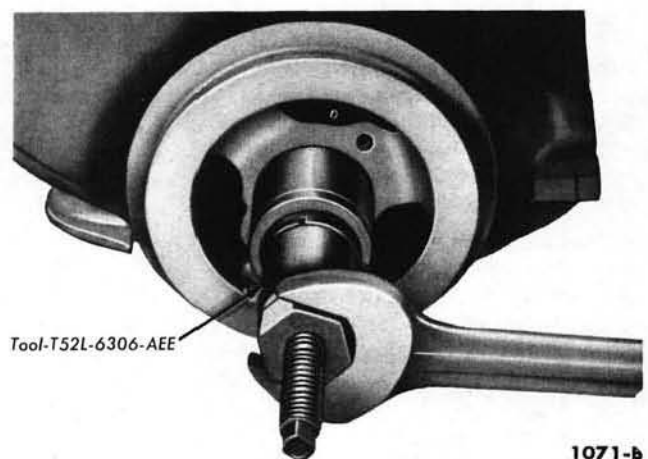

FIG. 24—Damper Installation
2. Align the damper keyway with the key on the crankshaft, and start the damper on the shaft. Press the damper on the shaft (Fig. 24). Install the lockwasher and capscrew, then tighten the capscrew to 85-95 foot-pounds torque. Install the pulley, spacer and fan. Install and adjust the drive belts. Install the radiator and fill and bleed the cooling system.